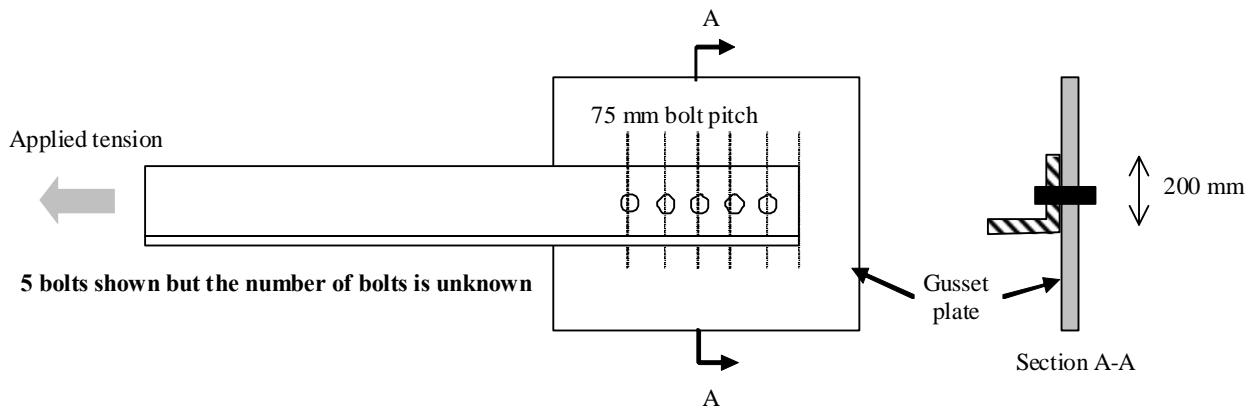

Figure 1 (All dimensions in mm)
- b) An engineer is assessing the tensile strength of a bracing connection in which a $200 \times 200 \times 16$ EA (Grade 300) is bolted to a 25 mm thick gusset plate (Grade 300 to AS/NZS 3678) by an unknown number of bolts as shown in Figure 1. The bolt pitch is 75 mm. Grade 8.8 snug tight M20 bolts are used in this connection, and the plane between the gusset plate and angle coincides with the threaded part of the bolt.